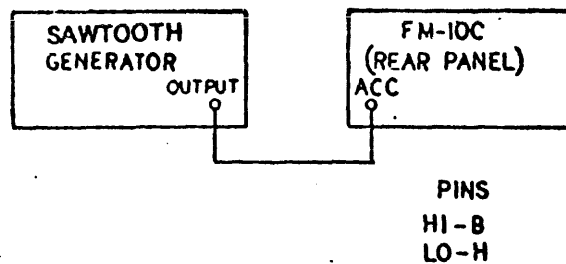

FIGURE 2-24
- b. Connect sawtooth generator to FM-10C as shown in Figure 2-24.